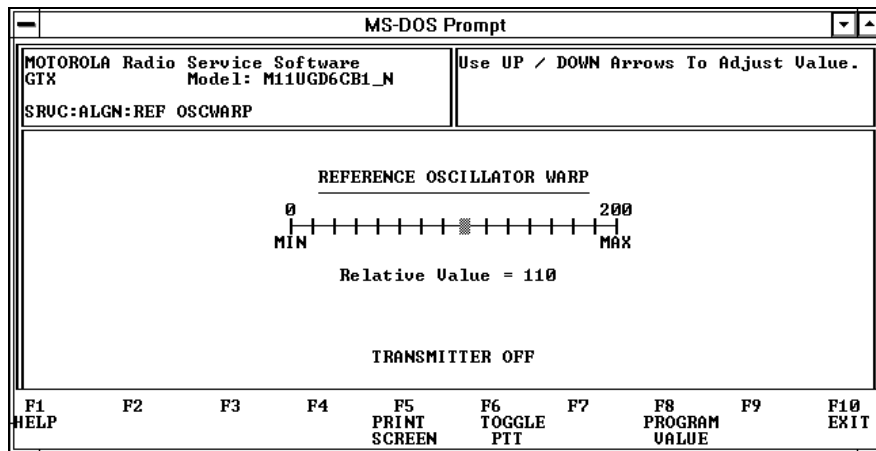

Figure 11.3 – Reference Oscillator Warp
1. Select "REFERENCE OSCILLATOR WARP" from the alignment menu. The reference oscillator warp screen is shown in Figure 11.3.